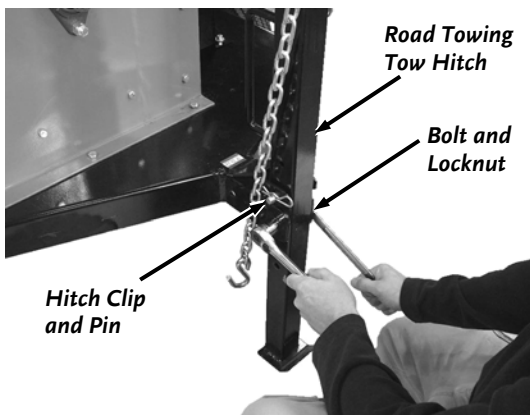

Figure 53
4. Position the Road-Towing Tow Hitch and secure with the Pin and Hitch Clip (**Figure 53**).